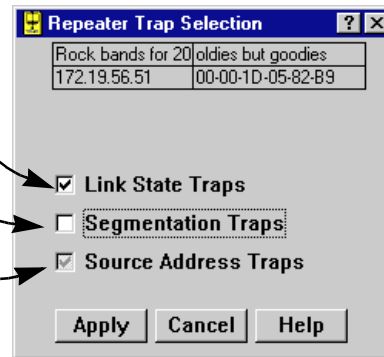

Figure 6-1. Repeater Trap Selection Window
2. Drag down to **Trap Selection...** and release. The Repeater Trap Selection window, Figure 6-1, will appear.